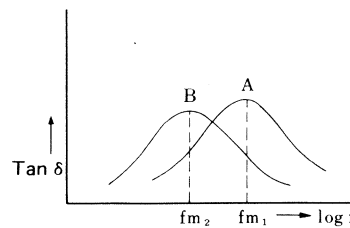

Fig. 4
- (2) When $\tan \delta$ of polar materials is measured at a fixed temperature while varying frequency "fm," each material shows a maximum $\tan \delta$ at a specific frequency (Fig. 4). This frequency "fm" changes quantitatively in inverse proportion to the viscosity of the material. In other words, the specific frequency "fm" of each material provides information about its hardening property. For instance, the degree of cure of thermo-setting resin and the degree of deterioration of paint can be known from the measurements of "fm".
- (3) Theoretically speaking, $\tan \delta$ is not measured in non-